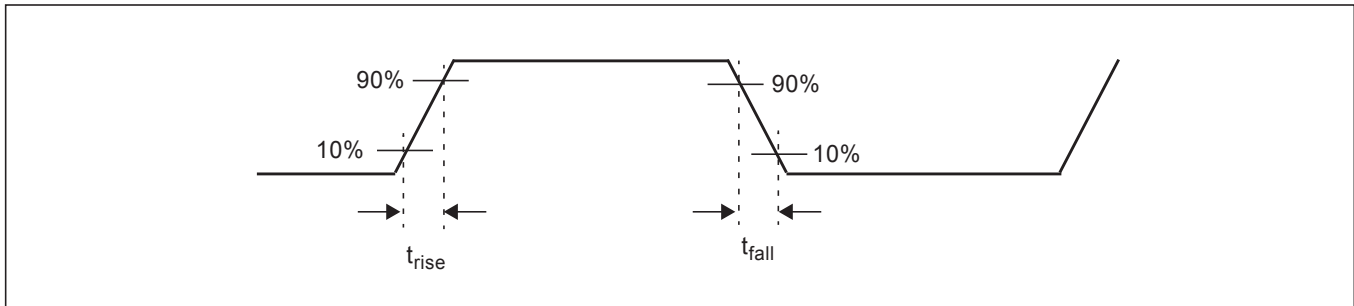

**Figure 39 - Output Duty Cycle**
**AC Electrical Characteristics - Output Clock Duty Cycle1 (See Figure 39).**